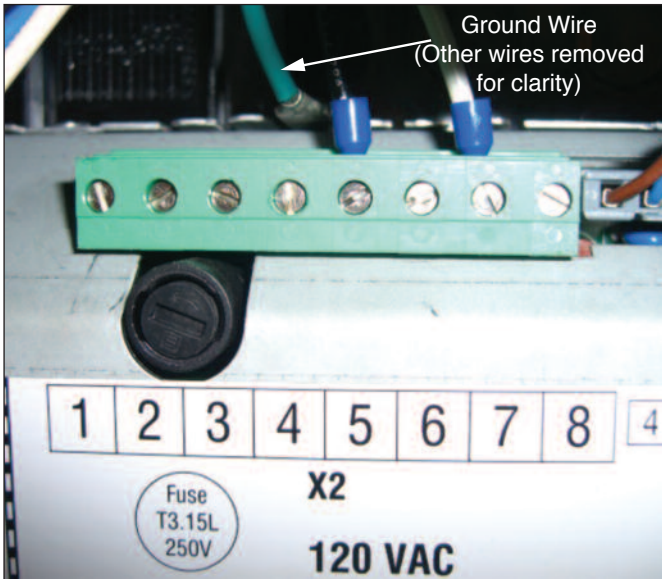

Fig. 4: Wiring Harness Terminations
6. Connect the green ground wire to an available grounding tab along the top of the control module. See Fig. 4.
7. Connect the black wire to X2-5 and the white wire to X2-7. See Fig. 4.